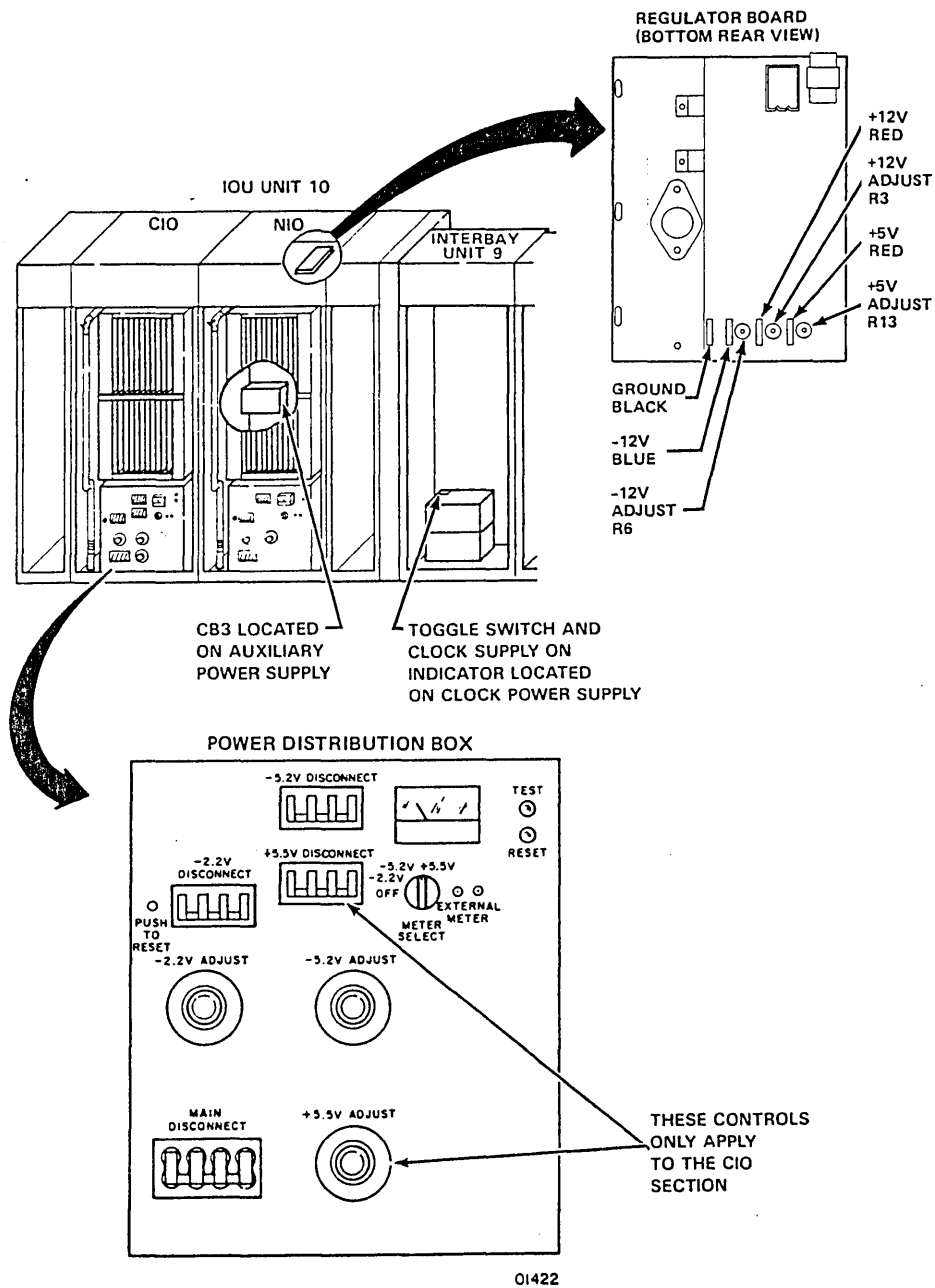

Figure 4-23. IOU Power Controls and Adjustments
- ___ a. Connect multimeter to ground and red +5 V test points on auxiliary power supply regulator board near top and rear of NIO section (figure 4-23).
- ___ b. Reconnect multimeter to ground and blue -12 V test points on regulator board (figure 4-23).